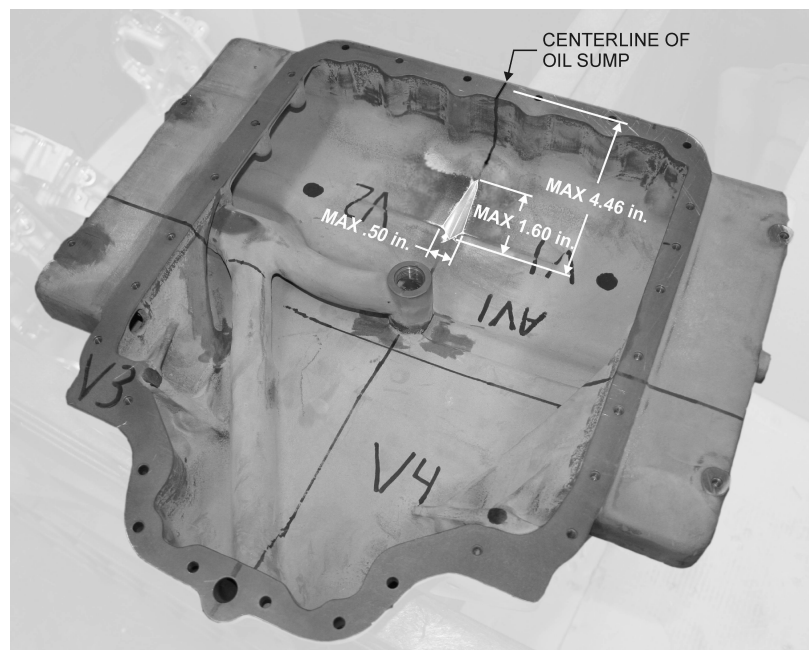

Figure 1. Sump Showing Acceptable Location of Wear Groove Clearance Cut
- a. Using Figure 1 and 2 in conjunction with the outline of the existing wear groove, use a die grinder or other similar equipment to remove the material. Maintain existing surface finish. Deburr all edges.